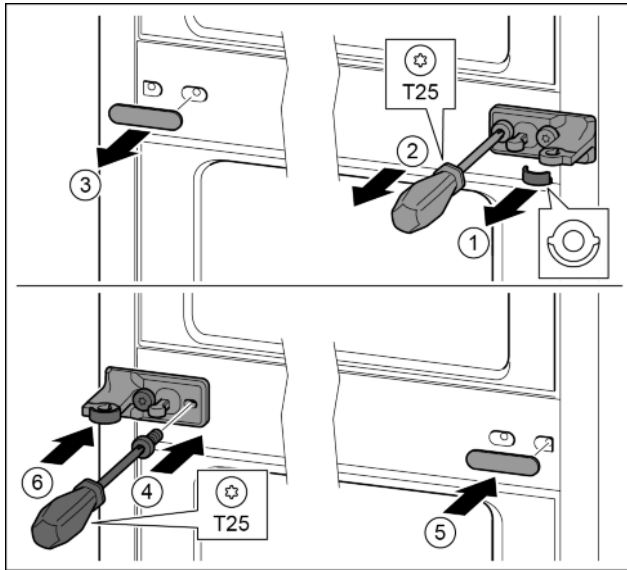

Fig. 13
- ▶ Remove the washer. Fig. 13 (1)
- ▶ Remove the screws with the T25 screwdriver. Fig. 13 (2)
- ▶ Remove the cover carefully. Fig. 13 (3)
- ▶ Screw the bearing bracket and the film rotated 180° firmly onto the other side. Fig. 13 (4)
- ▶ Attach the cover rotated 180° onto the other side. Fig. 13 (5)
- ▶ Push the washer in from the front. Fig. 13 (6)